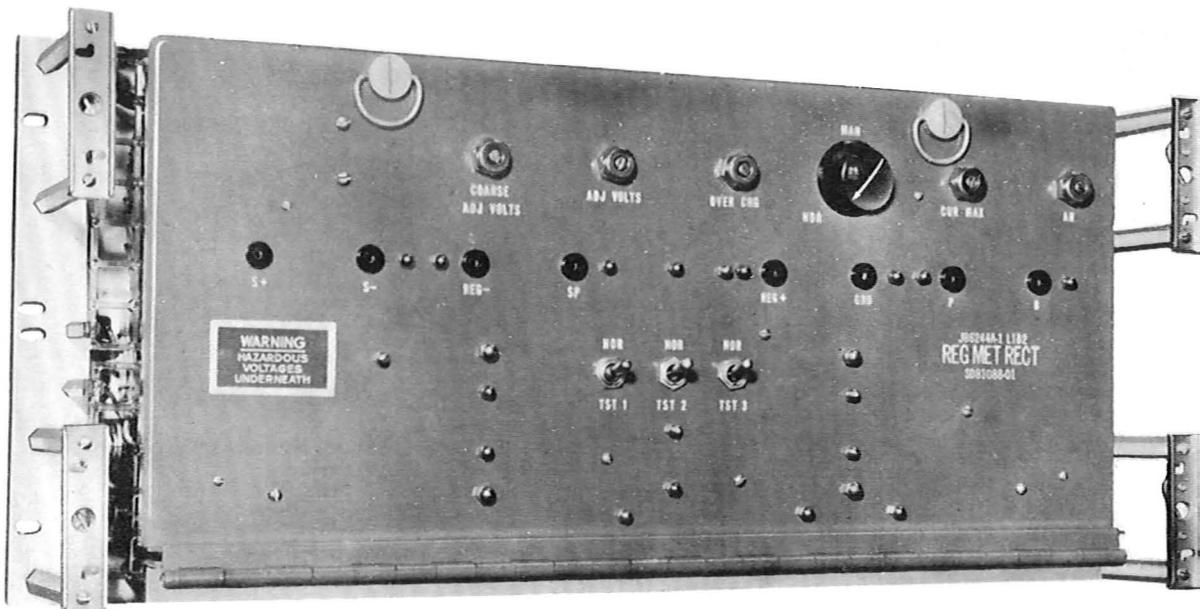

Fig. 1 - J86244 Rectifier Electronic Control Panel
1.02 This section is reissued to change the title and to revise Fig. 3 in accordance with the latest changes in the circuit drawing. Fig. 3 was formerly Fig. 1. Fig. 1 and 2 have been added and the section has been brought up to date.